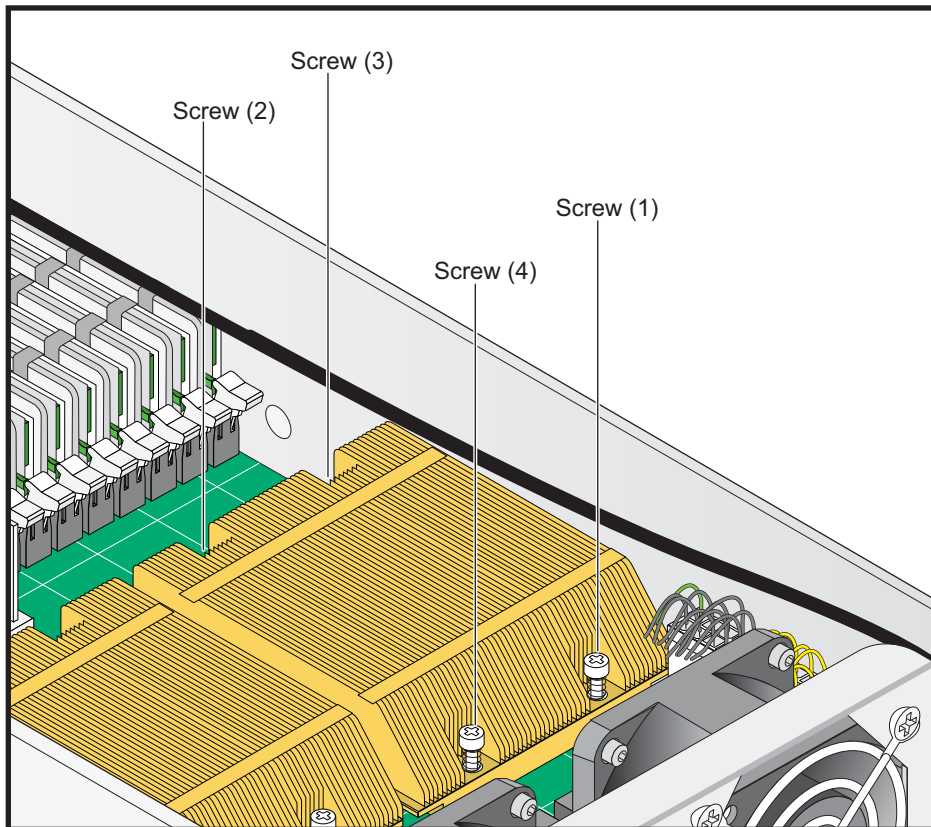

Figure 3-17 Install a CPU Heatsink
3. Install two screws (screw 1 and screw 2, shown in Figure 3-17) and tighten until just snug.
4. Install the two remaining screws (screw 3 and screw 4, shown in Figure 3-17); then, gently tighten all four screws.
1. Unscrew and remove the heatsink screws from the node board in the sequence as shown in Figure 3-17.